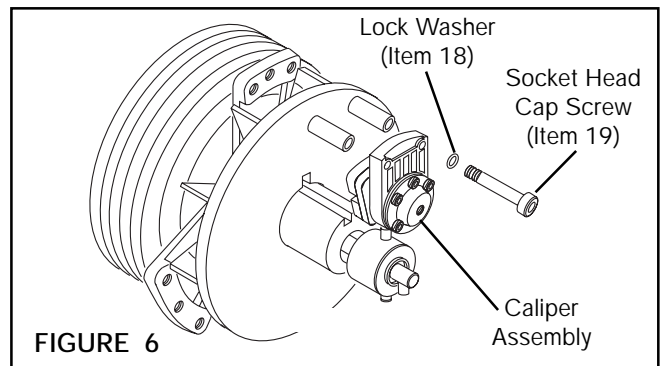

FIGURE 6
3. Remove the Socket Head Cap Screws (Item 19) and Lock Washers (Item 18) (See Figure 6).